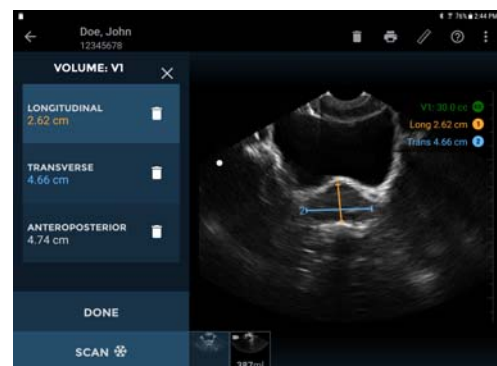

Fig 3.14 Volume Measurement
- Volume Measurements measure an ellipsoid volume using 3 caliper measurements (longitudinal, transverse, and anteroposterior) across two images (see Fig 3.14). The longitudinal and transverse measurements are positioned on the first image, and the anteroposterior measurement is positioned on the second image. The first and second images must be orthogonal.